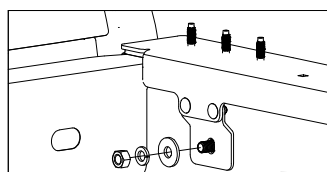

Figure C2: View looking at passenger side bed rail.
- 2. Mount bed protectors.** Place the bed protectors back onto the pickup bed rail and pass the 1/2" carriage bolt mounted into the bed into the extension bracket added to each bed protector. Secure the 1/2" carriage bolt with a 1/2" flat washer, lock washer, and finish nut, see Figure C2. Push the bed protectors towards the cab so they are firmly against the front of the bed. Tighten each 1/2" finish nut to 80 ft-lbs.